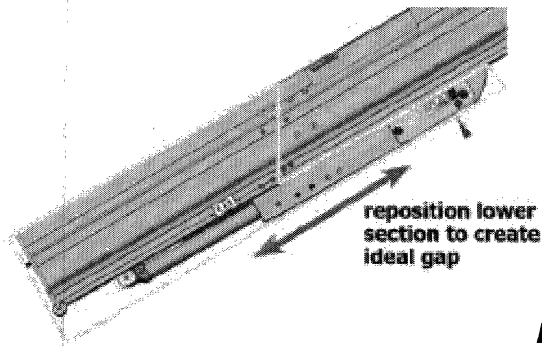

Fig. 7
8. Push or pull primary bracket assembly/ short rail portion as needed to create an ideal joint (Figs. 7 and 8).